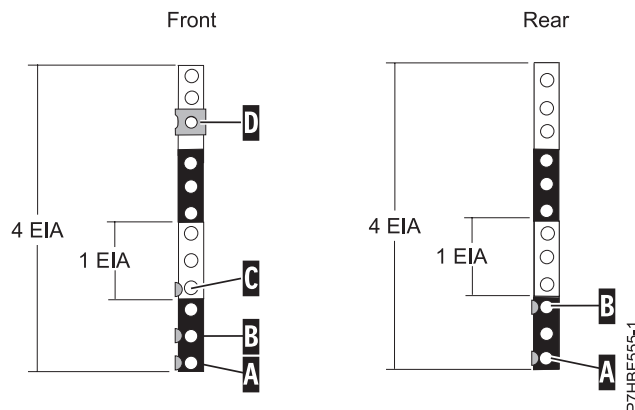

Figure 3. Marking holes on the front and rear of the rack frame
1. Facing the front of the rack and working from the right side, locate the bottom EIA unit that your expansion unit uses. Make a note of the EIA location. Use a tape, a marker, or a pencil to mark the bottom hole of this EIA unit as **A**, as shown in Figure 3. Mark the rack so the mark can also be seen from the rear of the rack.
2. Beginning with the hole identified by mark **A**, count up one hole and place a second mark as **B**. Mark the rack so that mark can also be seen from the rear of the rack, as shown in Figure 3.
3. Beginning with the hole identified by mark **B**, count up two holes and place a third mark as **C**, as shown in Figure 3.
4. To install the nut clip, beginning with the hole identified by mark **C**, count up six holes and place a fourth mark as **D**. Install the nut clip at location **D** as shown in Figure 3.
8. Beginning with the hole identified by mark **A**, count up two holes and place a second mark as **B**, as shown in Figure 3 on page 5.